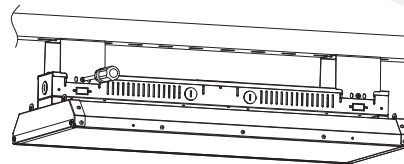
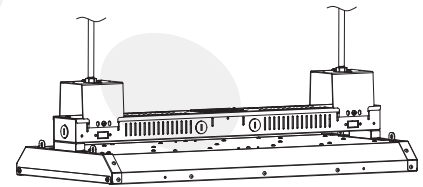

Figure6
Figure7
- Step2. Mount bolt on the rail or ceiling, and mount the fixture bracket on the bolt (Figure 6); and then install the fixture. (Figure 7).